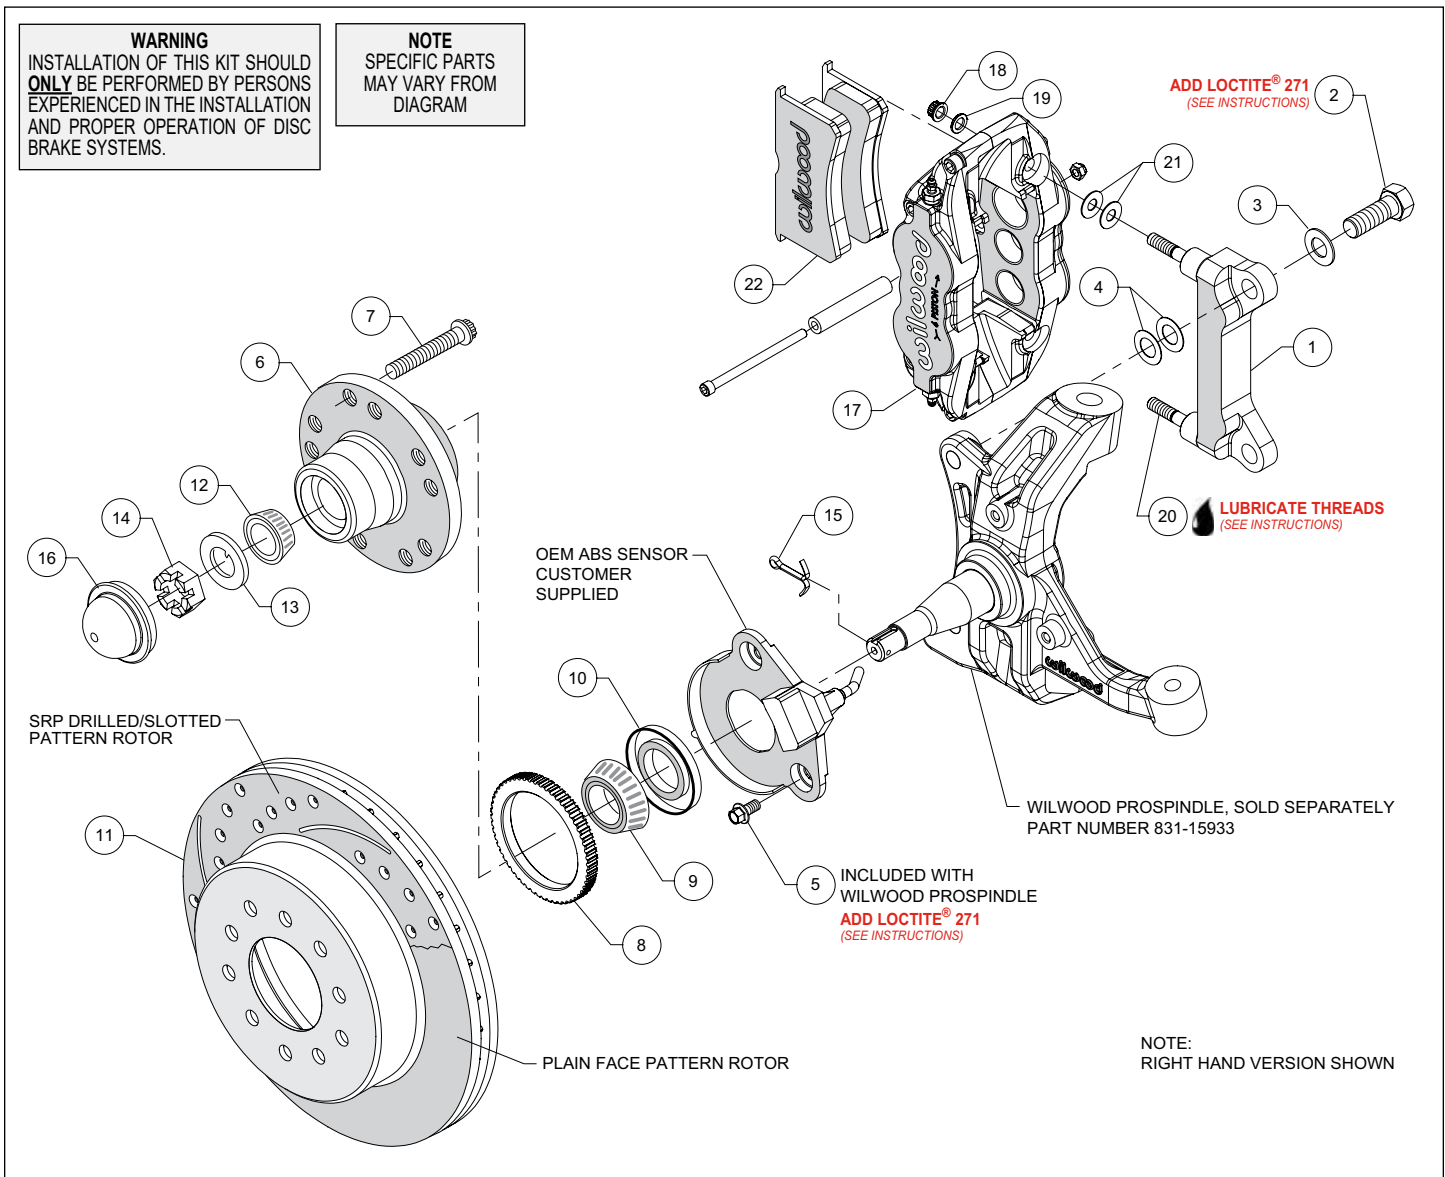

Figure 1. Typical Installation Configuration
NOTE: Numbers in parenthesis refer to the parts list and Figure 1 on the preceding pages.
- For vehicles equipped with ABS, install the OEM ABS sensor (customer supplied) to the spindle using bolts (5) as shown in Figure 1 and Photo 3. Temporarily tighten the mounting bolts. **NOTE: The sensor must fit squarely against the mount bosses on the spindle.** Inspect for interference from casting irregularities, machining ridges, burrs, etc. Remove the bolts one at a time and apply red *Loctite*® 271 to the threads, and torque to 20 ft-lb.
- The caliper mount bracket (1) should initially be installed with clean, dry threads on the mounting bolts. Orient the bracket, as shown in Figure 1 and Photo 4, and install using bolts (2) and washers (3). Initially place two .024" thick shims (4) on each bolt between the bracket and spindle, Figure 1. Temporarily tighten the mounting bolts. **NOTE: The bracket must fit squarely against the mount bosses on the spindle.** Inspect for interference from casting irregularities, machining ridges, burrs, etc. Later, after the caliper alignment has been checked, the mount bolts will be secured using red *Loctite*® 271.
- Install wheel studs (7) into the hub (6), Photo 5. Torque to 77 ft-lb. **NOTE: There are two five lug patterns in the hub (5 x 4.75 and 5 x 5.00).** Ensure the correct hub stud pattern is being used to fit the wheel application.
- For vehicles equipped with ABS, carefully press the ABS ring (8) onto the backside of the hub (6) as shown in Figure 1 and Photo 6.
- NOTE: This kit contains distinct right and left hand calipers that must be mounted in a specific direction, as described below.** Lubricate the caliper mounting studs (20) with lightweight oil. Initially place two .035" thick shims (21) on each stud between the caliper and the bracket, as shown in Figure 1 and Photo 10. Mount the caliper (17) onto the bracket (1) using lock nuts (18) and washers (19), Figure 1. Temporarily tighten the lock nuts. Ensure that the caliper is mounted so that the largest pistons are at the rotor exit end of the caliper, in relation to the direction of rotor rotation. View the rotor through the top opening of the caliper. The rotor should be centered in the caliper, Photo 11. If not, adjust by adding or subtracting shims (4) between the bracket and the spindle. Always use the same amount of shims on each of the two mounting bolts. Once the caliper alignment is correct, remove the bracket mounting bolts one at a time, apply red *Loctite*® 271 to the threads, and torque to 140 ft-lb.